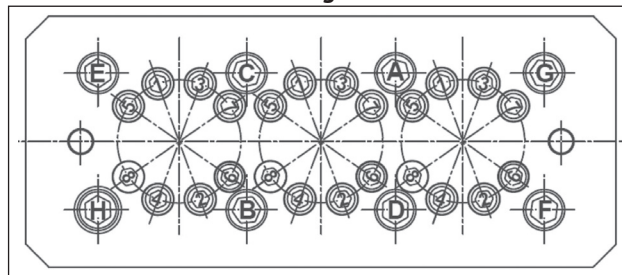

Fig. 50
- ** The head fixing screws must be tightened respecting the phases and order shown in the diagram in Fig. 50.
- *** The liner fixing screws must be tightened respecting the phases and order shown in the diagram in Fig. 50.